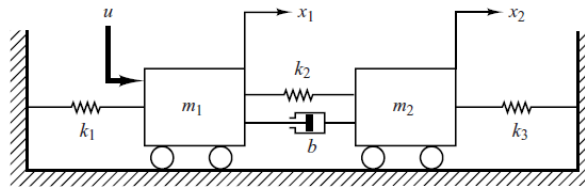

Figure 1: Mass spring damper mechanical system
2. Consider the mechanical system shown in Figure 1:
3. The linearized dynamical motion of a translational mechanical system shown in Figure 1 is given as